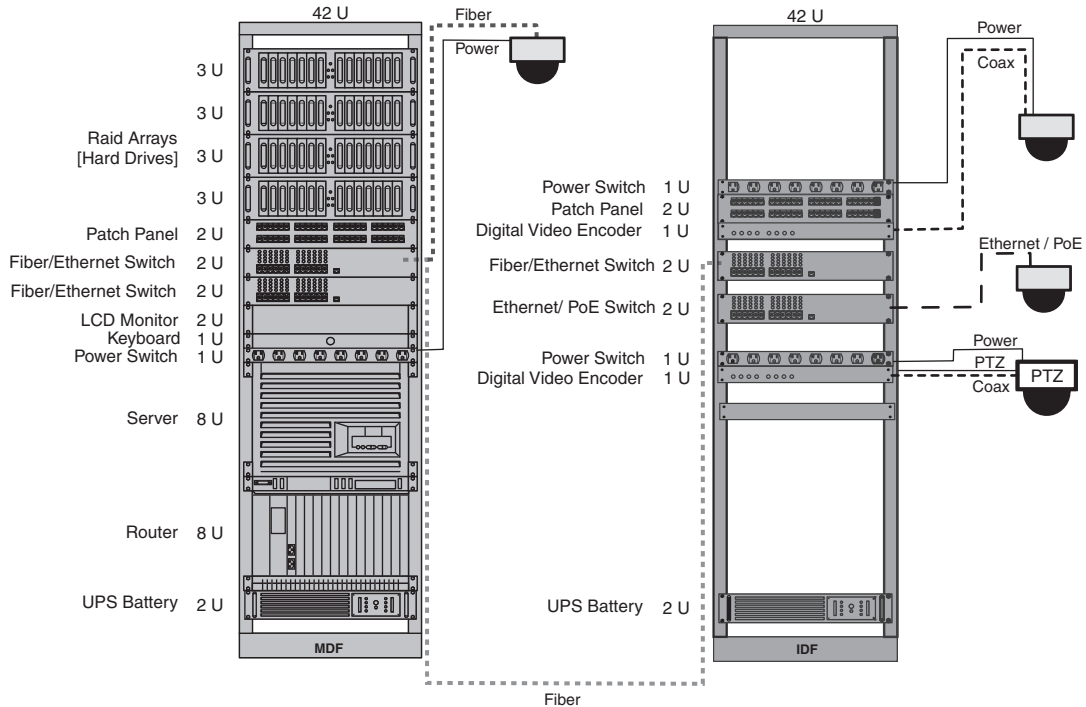

FIGURE 8-1 Rack-mounted VMS.
IBM, Hewlett-Packard (HP), and Dell are the industry leaders in providing enterprise level hardware, mostly in rack-mounted products (see Figure 8-1). The rack-mounted computing platform form factor provides a dramatic increase in the density of computing and networking devices by “stacking” those devices per unit of floor space.